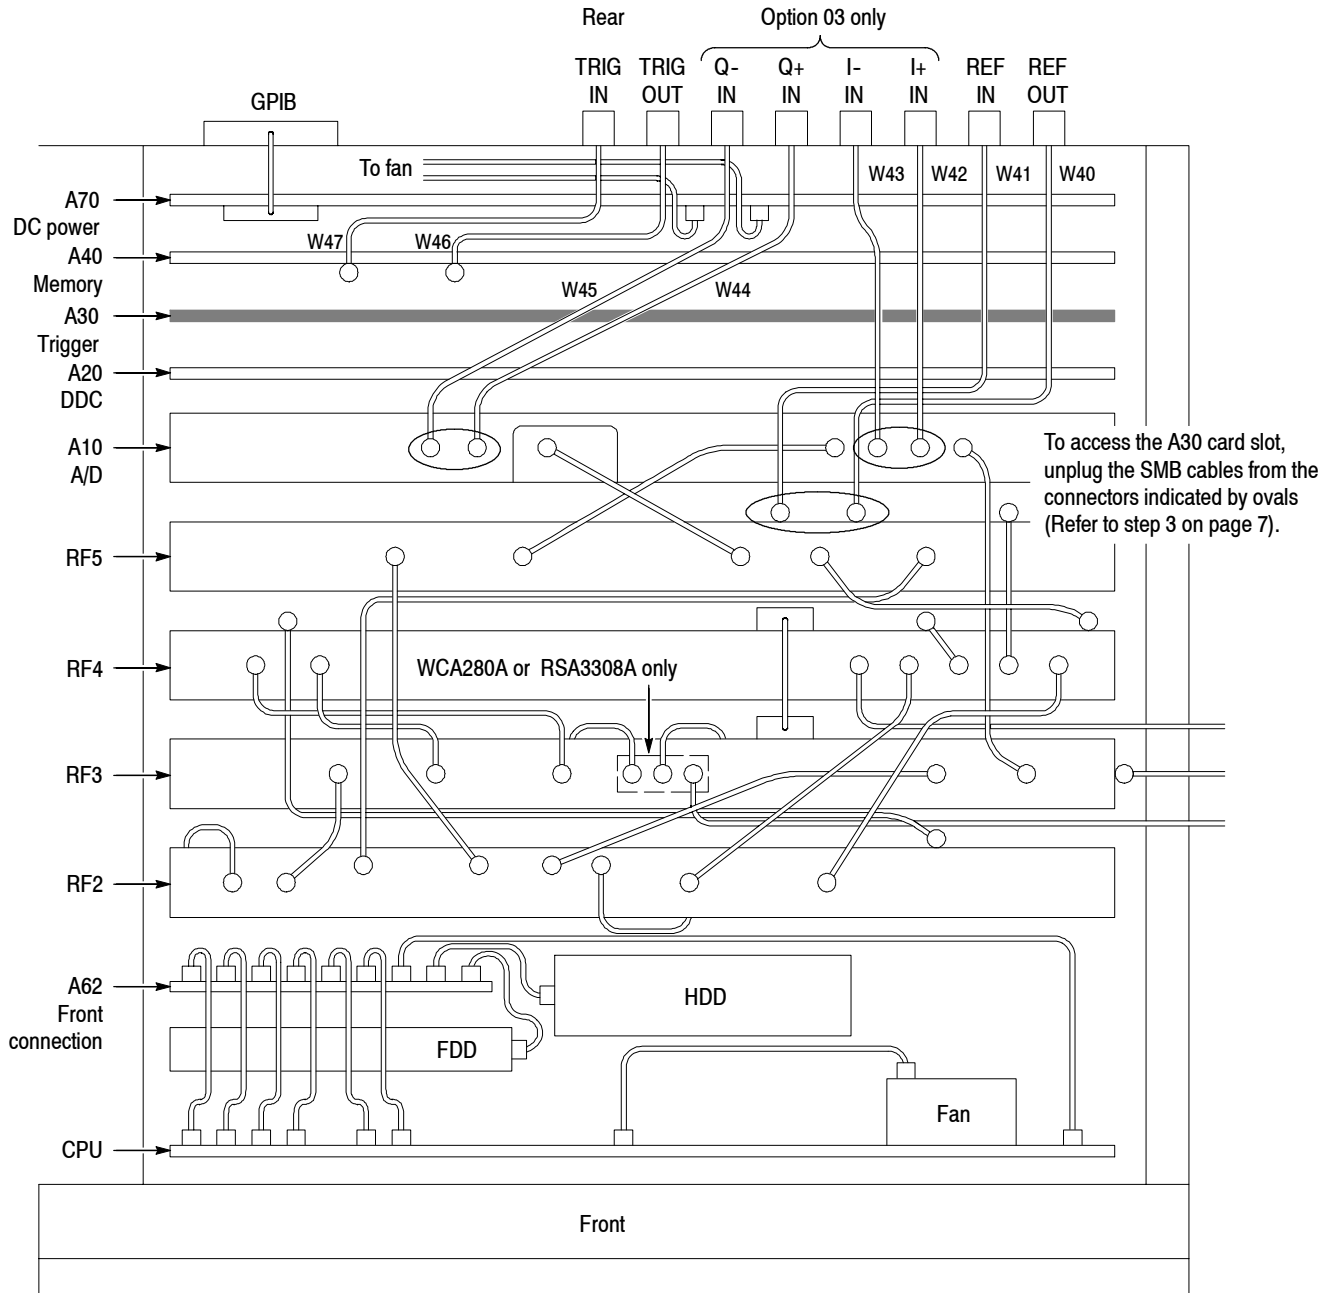

Figure 3: Top view of the card cage
1. Locate the A30 trigger board slot in Figure 3 (top view of the card cage).
(See Figure 3 on page 5.)